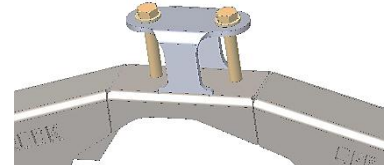

Figure 15
89. Weld upper control arm bracket to truss (see figure 15). Box Truss: Be sure holes are aligned in the bracket/truss and leave 2-5/8\" plus some wiggle room for mounting control arms. Plate Truss: Using the bracket as a template: place the bracket flush to front edge of truss and directly over the axle centerline, then mark the location of holes to be drilled. Drill the two holes starting with a small drill size and ending with 9/16\" Use plenty of oil. Be sure bolt holes are aligned in the bracket/truss and leave 2-5/8\" plus some wiggle room for mounting control arms before welding.
90. Assemble UCA mounting bolts and nuts from hardware kit 150 onto truss (see figure 15 & 16). Snug bolts and weld nuts to bottom of truss. Box Truss: Stitch weld the truss gusset into the inside of the truss. Ensure holes in gusset are aligned to truss (if applicable).